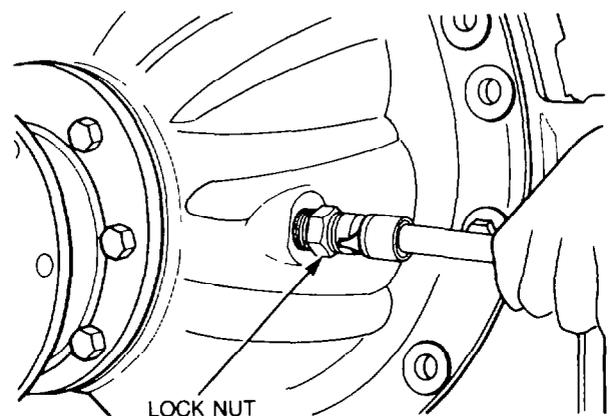

Figure 219 — Removing Thrust Screw — Rear Differential
- b. Position the differential carrier assembly on a suitable overhaul stand, then slacken the lock nut and remove the crown wheel thrust screw from the carrier housing (see Fig. 219).